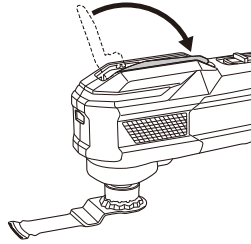

Fig. 12
- (5) Push down the lever. (Fig. 12)